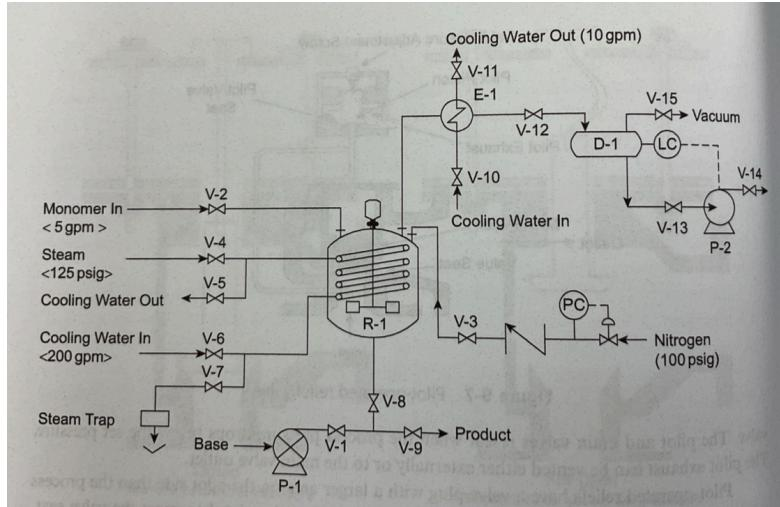

Figure 12: Process flow diagram of a polymerization process. \*Source: Crowl and Louvar, Chemical Process Safety, 4th Edition, Figure 9-8.
2. Use the provided reactor drawing (Figure 12 above) and identify three locations where you would place relief devices, justifying each choice.